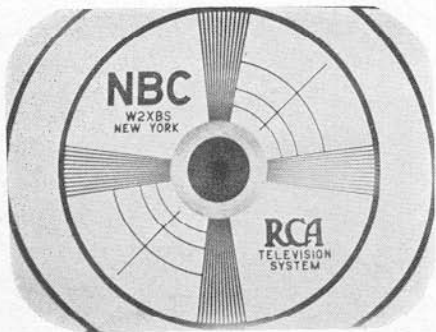

Figure 2—CORRECT PICTURE
Contrast and Brightness Controls.—The dual knob at the left of the row of three is the one most frequently used during picture reception. The inner "I" Contrast section regulates the sensitivity of the receiver, varying the black and white tones of the picture being received. Too much contrast gives blurred details and a lack of half-tones, while too little contrast makes it all half-tones or grays. Turning clockwise increases contrast from grays, to black and white. See Figures 2, 4 and 5.
The outer ring "O" is the Brightness Control and affects the average illumination of the picture. Turning clockwise increases the brightness. See Figures 2, 4 and 5.
5. Turn the Contrast Control fully counterclockwise and then turn Brightness Control slowly until illumination of the screen almost disappears. Advance the Contrast Control until the picture appears at its best. Make final adjustment for best picture by adjusting both the Contrast and Brightness Controls. A little practice at operating these controls will soon enable you to obtain the best picture. The illustrations shown in Figures 2, 4 and 5 give an idea of the effect of the Brightness and Contrast Controls. Incorrect setting has effects somewhat similar to under and over exposure on photographic prints.